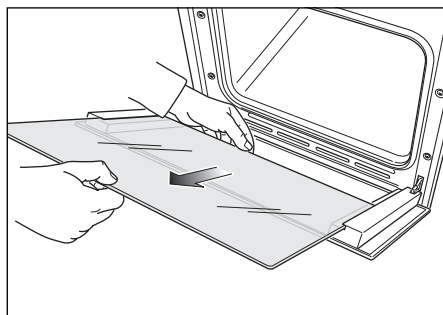

Fig. 40e
- Gently pull out the inner pane of glass (Fig. 40e).